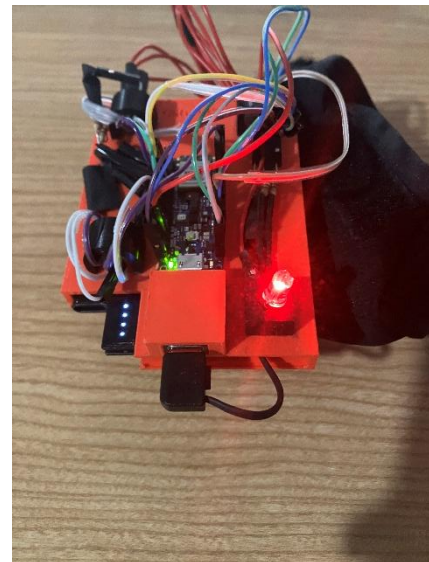

Figure 3: Power Button Location with LED Red
3. Press the Power Button labelled with a thunderbolt to swap between Power On and Off states (Refer to Figure 3). The Robot will only move when in Power On. When swapping into Power On, the Controller's Home position is set to the orientation your hand currently is in.